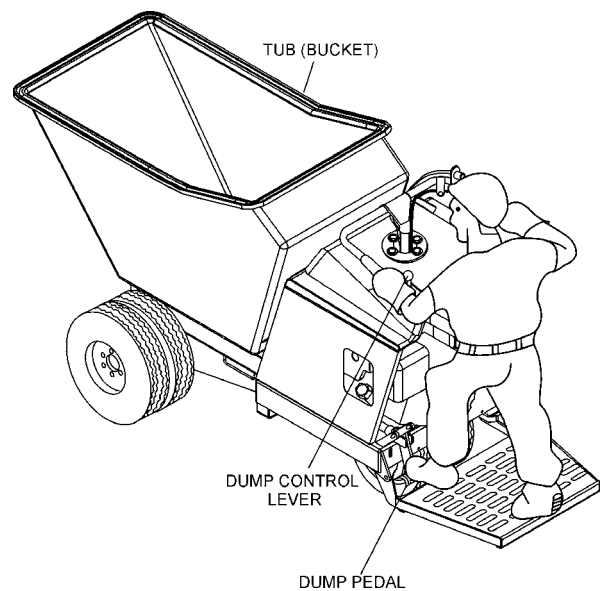

Figure 25. Dump Pedal
1. To activate the hydraulic dump, press down on the dump pedal (Figure 25) or move the dump control lever forward. The tub will move to the vertical position as long as pressure is continuously applied to the dump pedal or the dump control lever is held in the forward position.